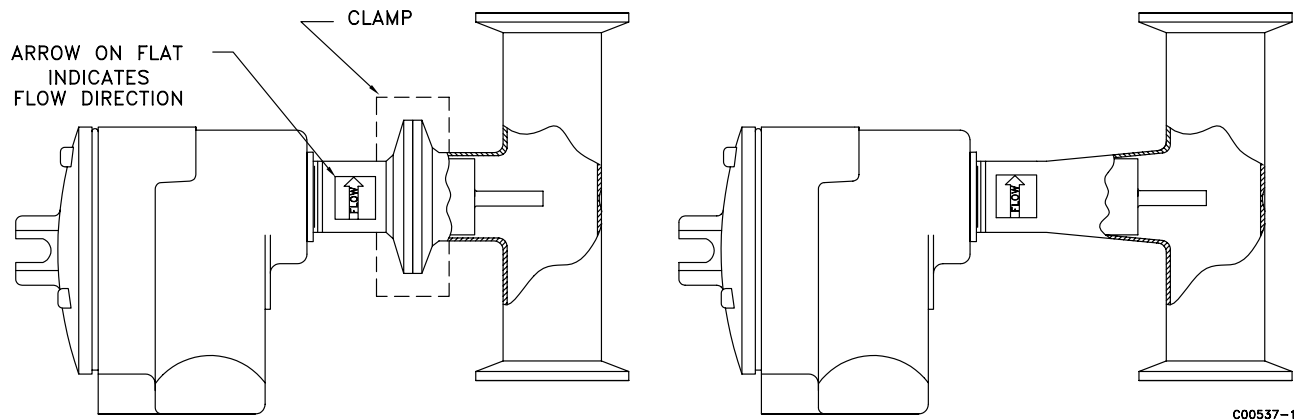

Figure 2-4 FLT93C Sanitary Flow Elements (RC and CIP)
The instrument is inserted into the process connection with removable clamp fittings. The Removable Clamp (RC) sanitary assembly contains a removable clamp connection to the flow element. The Clean-In-Place (CIP) sanitary assembly has the flow element directly welded into the process stand pipe. Otherwise these instruments function exactly the same as an FLT93F or FLT93S. See Appendix A for outline dimensions of the instruments. Figure 2-4 also shows the sanitary assemblies.